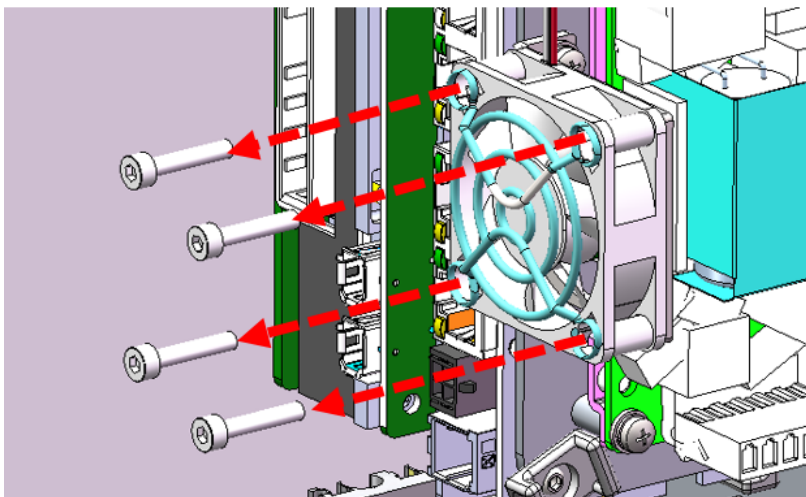

Figure 5-10 Remove the power module cooling fan
- Step 5** Use 3 mm Allen wrench to remove the fastening screws from the power module cooling fan, as shown in Figure 5-10.